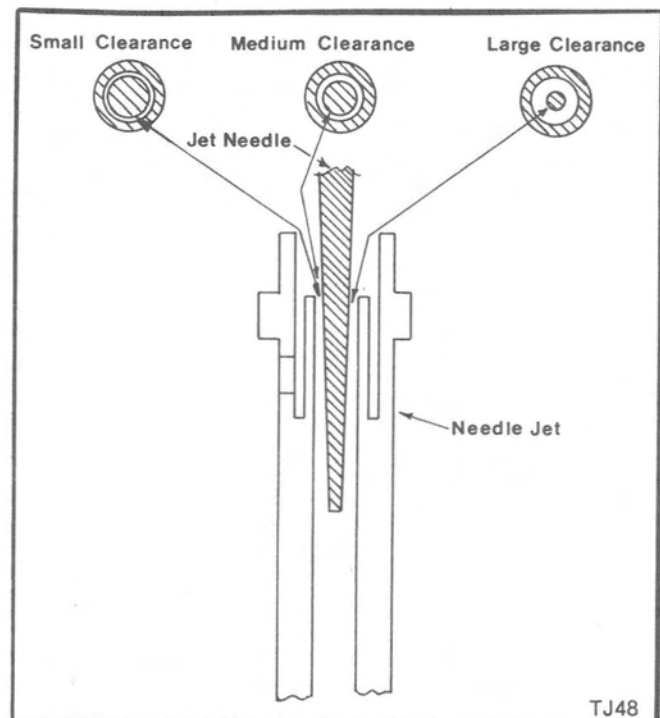

Figure 48
C. Intermediate System (Figure 48)